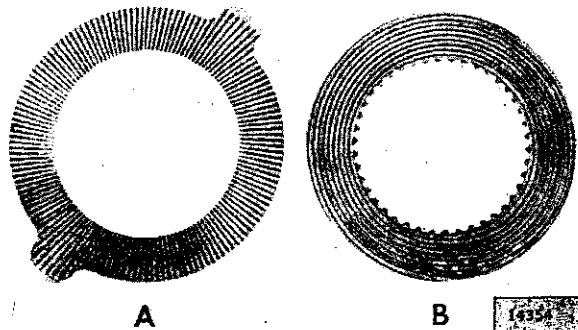

FIG. N-52—PLATE AND DISC IDENTIFICATION
f. Example of radial groove plate (A) and the concentric groove disc (B) shown in Fig. N-52.